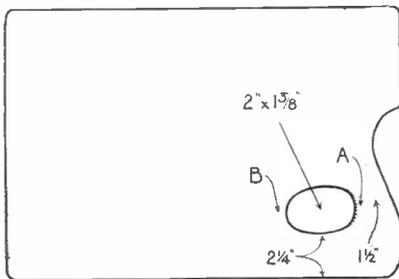

Fig. 1—Showing the peculiar cut-out for the palette
Oblong palettes are the easiest to make. A shape 9 or 10ins. by 6 or 7ins. would be most useful. Fig. 1 shows the peculiar cut-out necessary for a palette. Make the thumb hole large enough for comfort in holding, and smooth the edges off well, especially at the part marked (A) on the drawing. The underside of the hole, across from point (A) should be similarly treated. This is point (B) underneath the palette. The outer edges of the palette and the corners are rounded off as well.